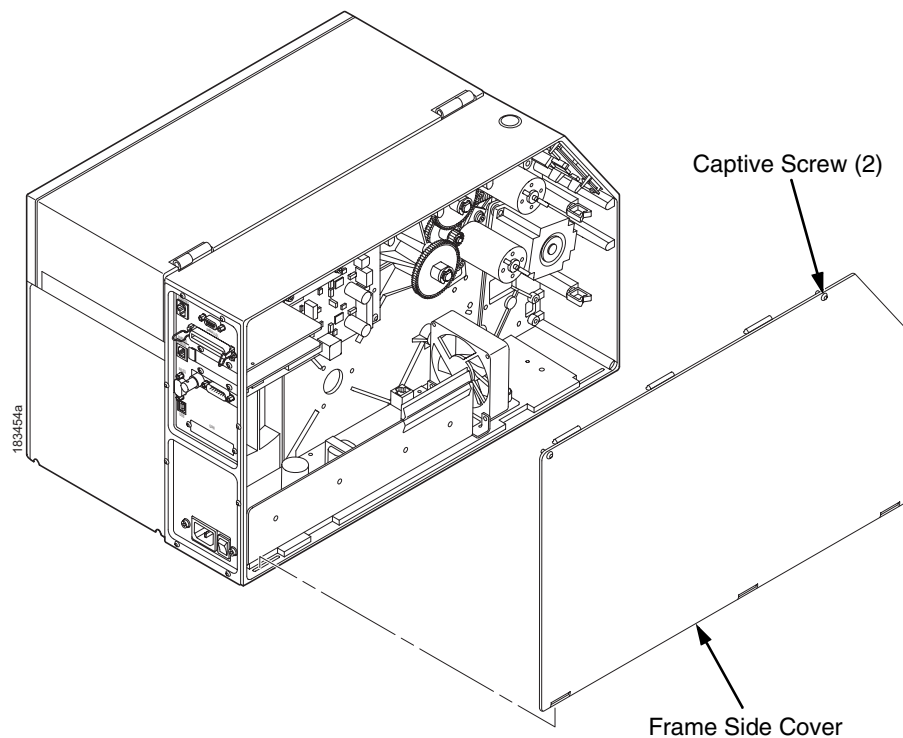

Figure 2. Removing the Frame Side Cover
1. Loosen the two captive screws securing the top of the frame side cover. (Figure 2.)
4. Tighten the two captive screws. (Figure 2.)